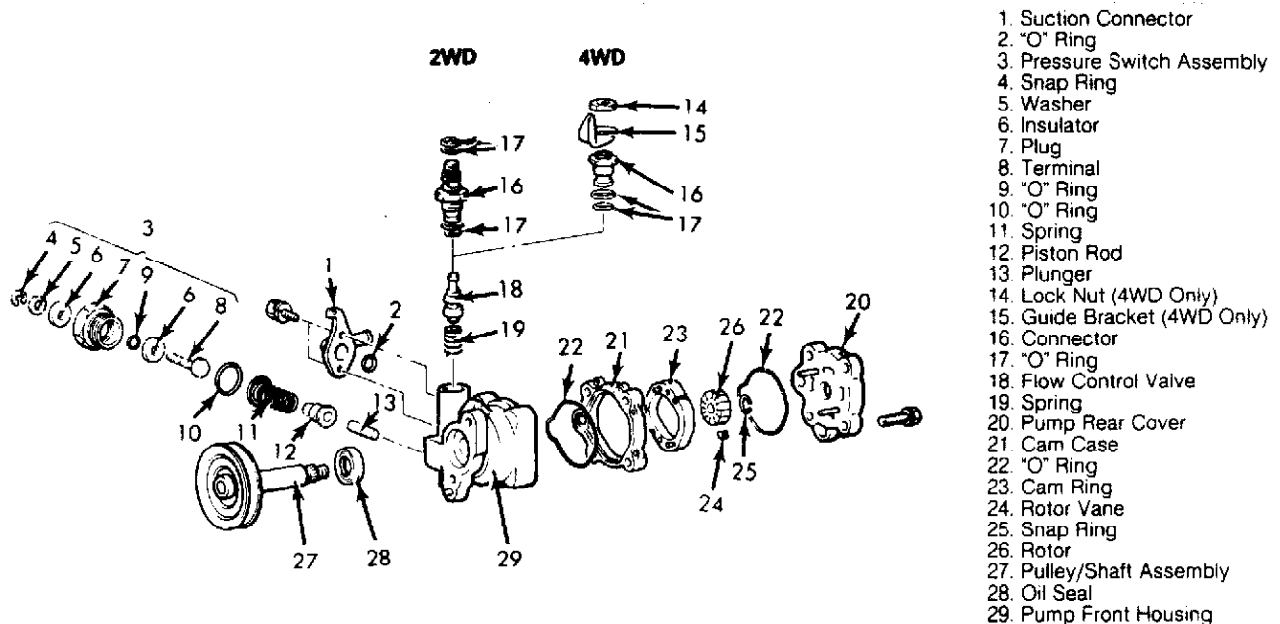

Fig. 2: Exploded View Of Power Steering Pump (All Models)
1) Remove pump rear cover, cam ring, "O" rings and vanes from rotor. See Fig. 2. Remove snap ring from pulley assembly. Remove rotor.